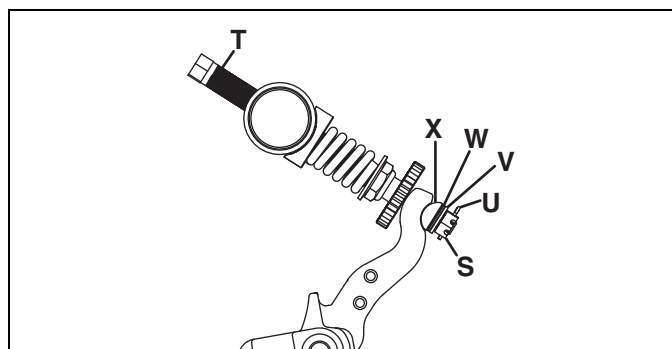

Figure 9G
1. Remove cotter pin **(U)**, slotted nut **(S)**, bellville washer **(V)**, shim washer **(W-If required)**, and half trunnion **(X)**. See Figure 9G